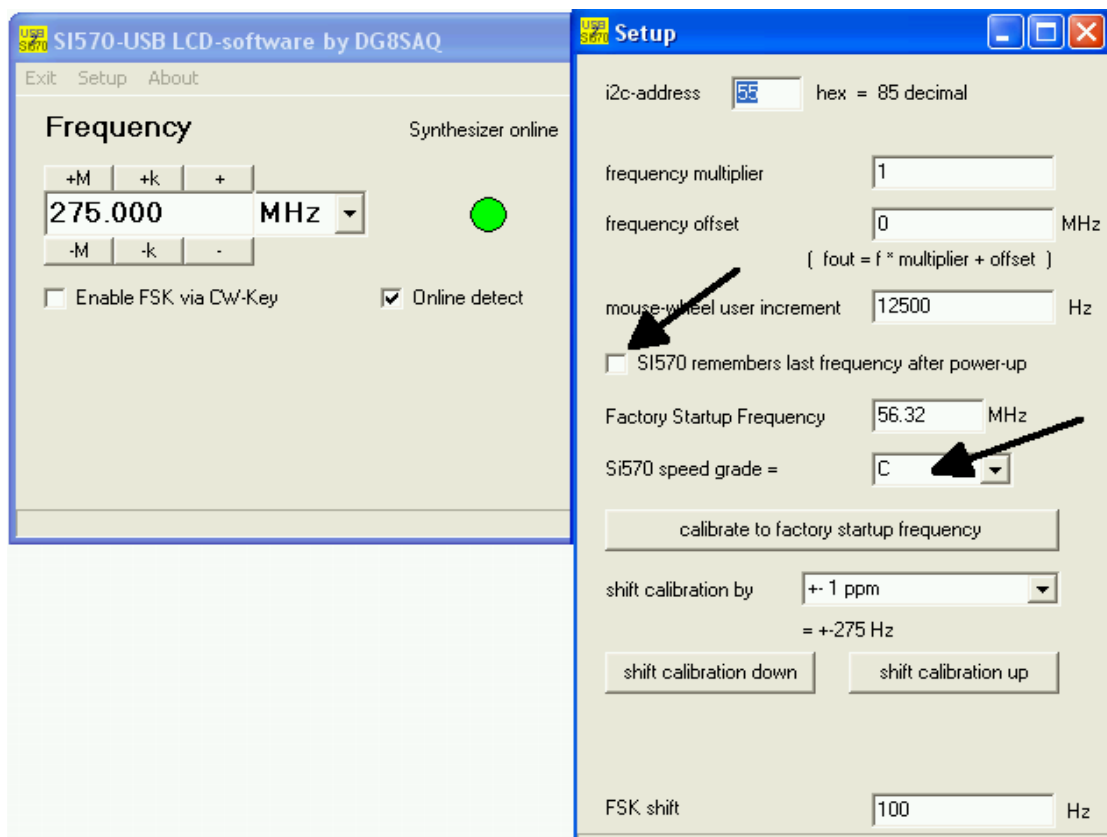

Fig 11: Si570 USB controller USB_Synth.exe Setup Screen
- The frequency may be set to the nearest Hz. And a Multiplication factor (including fractions) and/or Frequency offset (IF offset in MHz) may be specified as shown in the setup screen in fig 11.
To make optimum use of the capability of the Si570 Device fitted, it is important that the correct Si570 speed grade is selected as shown in Fig 11. For C-grade devices (Si570CAC or Si570BBC) this allows for operation up to the maximum frequency of 280 MHz.